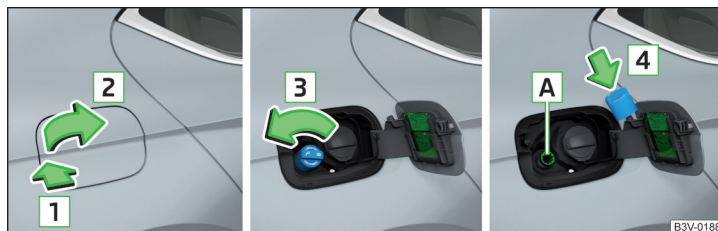

Fig. 316 **Open fuel filler flap / unscrew tank cap / place the tank cap on the fuel filler flap**
- Press the fuel filler flap in the direction of arrow **1** and open it in the direction of arrow **2** » Fig. 316.